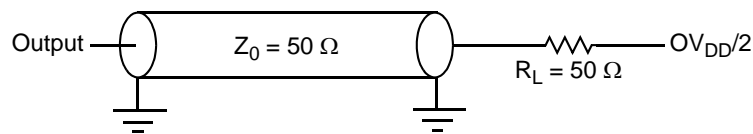

Figure 29. AC Test Load for the JTAG Interface
1. All outputs are measured from the midpoint voltage of the falling/rising edge of t_{TCLK} to the midpoint of the signal in question. The output timings are measured at the pins. All output timings assume a purely resistive 50- Ω load (see Figure 29). Time-of-flight delays must be added for trace lengths, vias, and connectors in the system.
2. The symbols used for timing specifications follow the pattern of $t_{(first\ two\ letters\ of\ functional\ block)(signal)(state)(reference)(state)}$ for inputs and $t_{(first\ two\ letters\ of\ functional\ block)(reference)(state)(signal)(state)}$ for outputs. For example, $t_{JTDVVKH}$ symbolizes JTAG device timing (JT) with respect to the time data input signals (D) reaching the valid state (V) relative to the t_{JTG} clock reference (K) going to the high (H) state or setup time. Also, t_{JTDXKH} symbolizes JTAG timing (JT) with respect to the time data input signals (D) went invalid (X) relative to the t_{JTG} clock reference (K) going to the high (H) state. Note that, in general, the clock reference symbol representation is based on three letters representing the clock of a particular functional. For rise and fall times, the latter convention is used with the appropriate letter: R (rise) or F (fall).
Figure 29 provides the AC test load for TDO and the boundary-scan outputs.